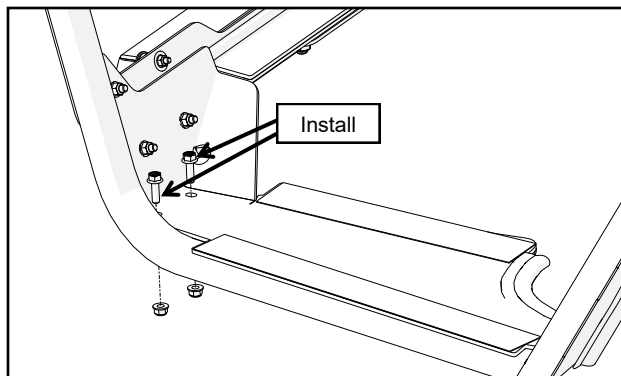

Fig. 2.8 (Install Front Mount Screws)
- 2.8** Install the front of the cab to front mounts per Figure 2.8.